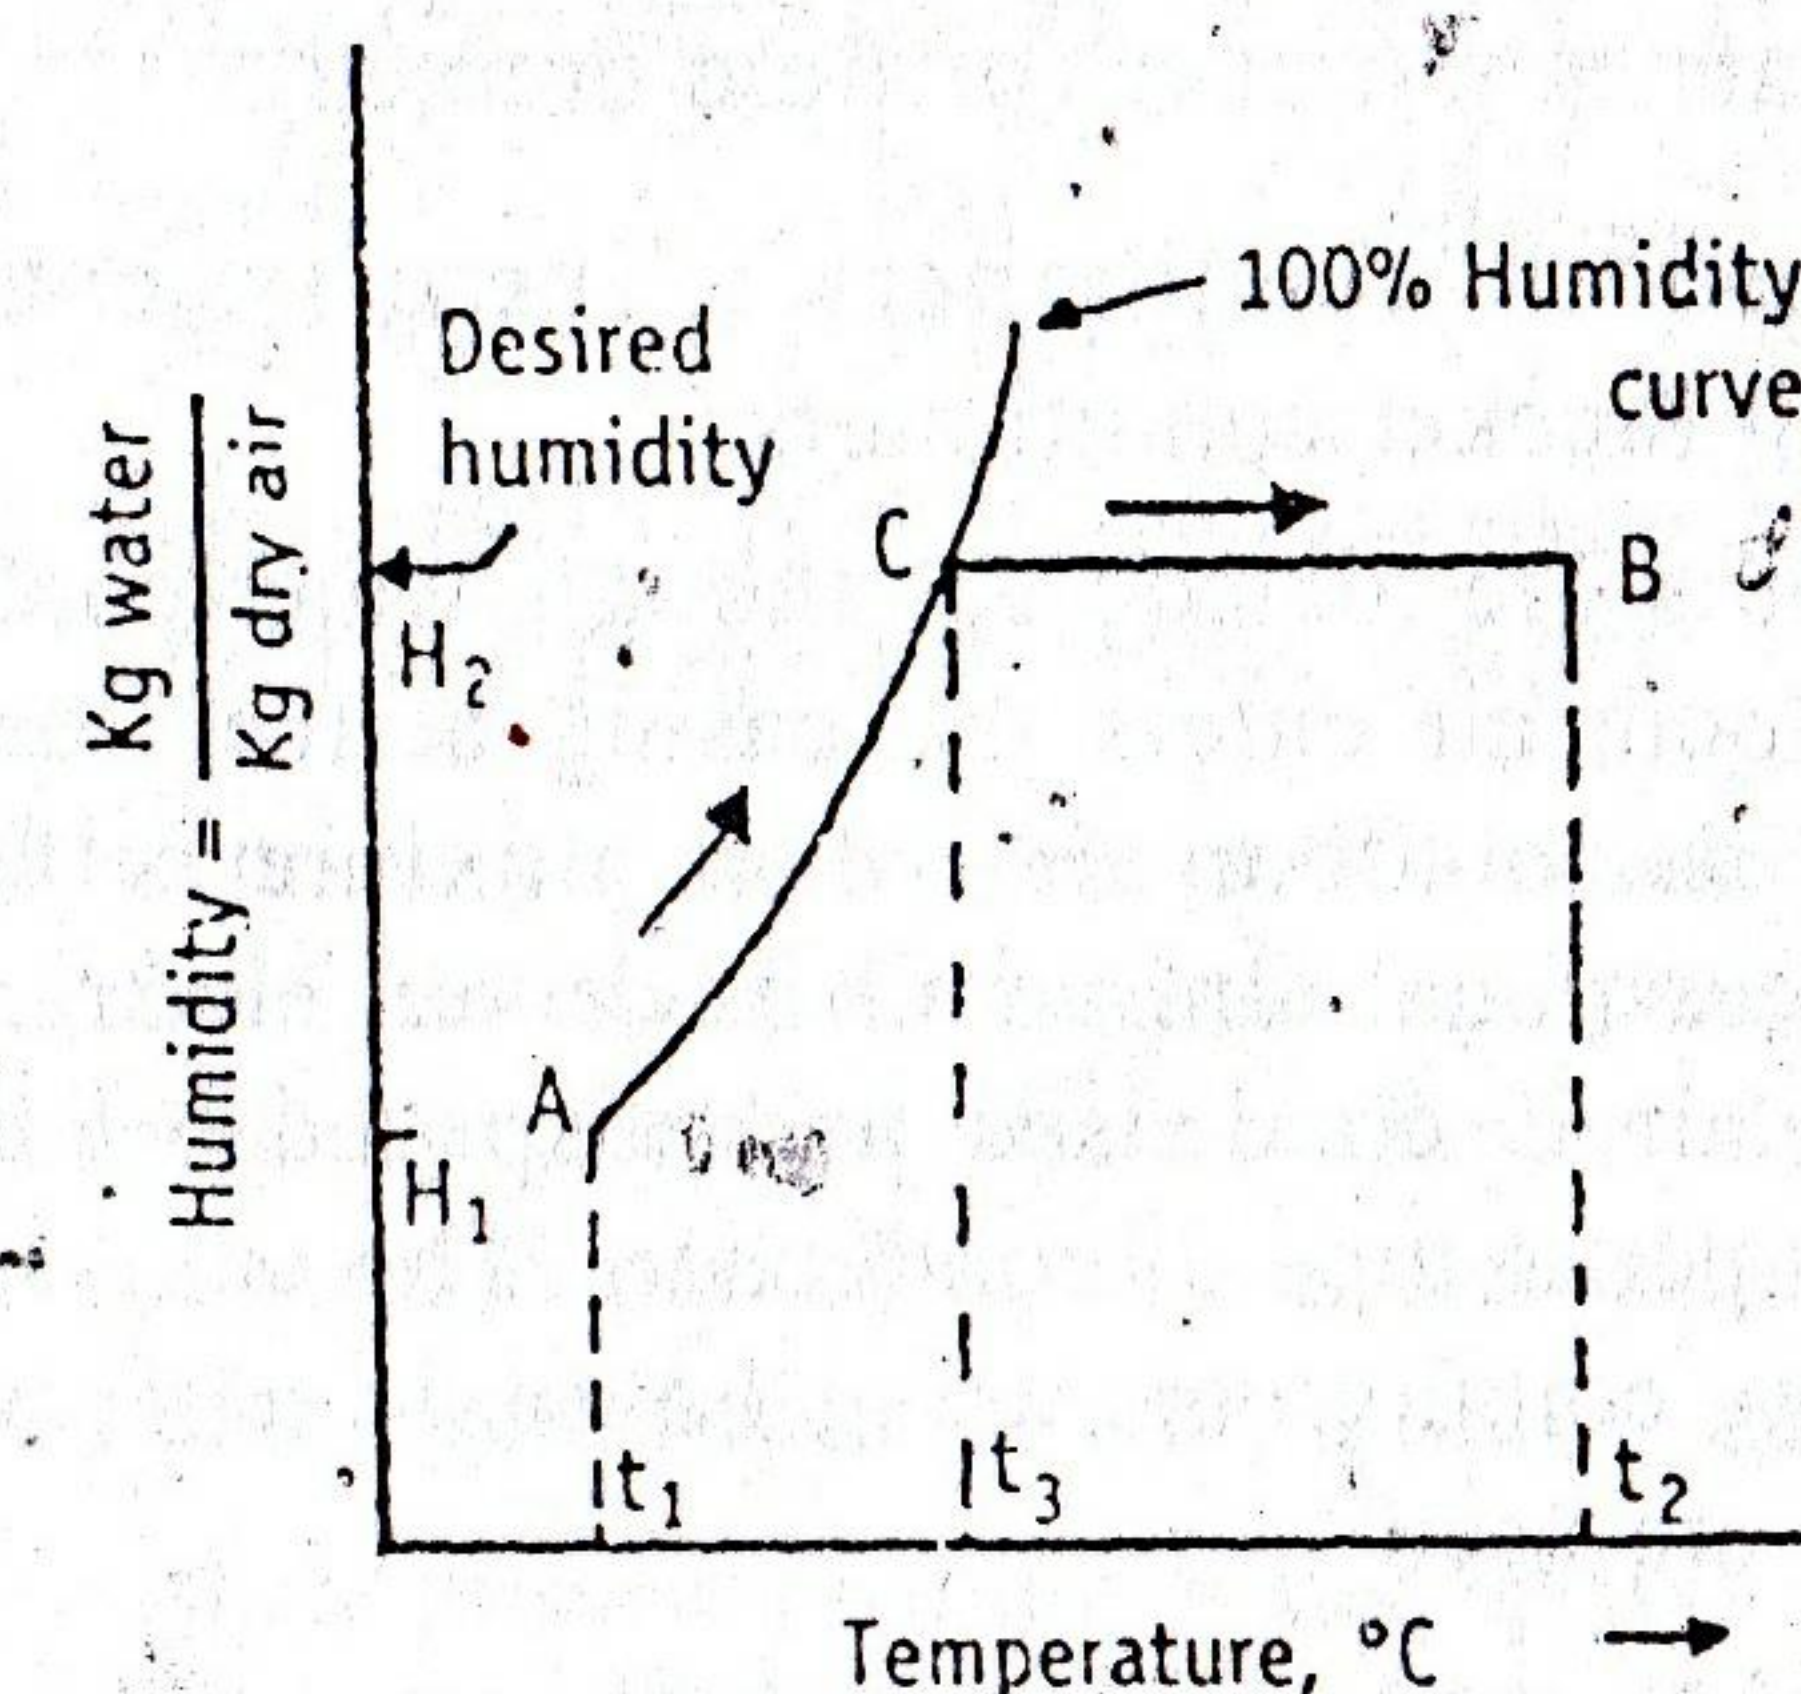
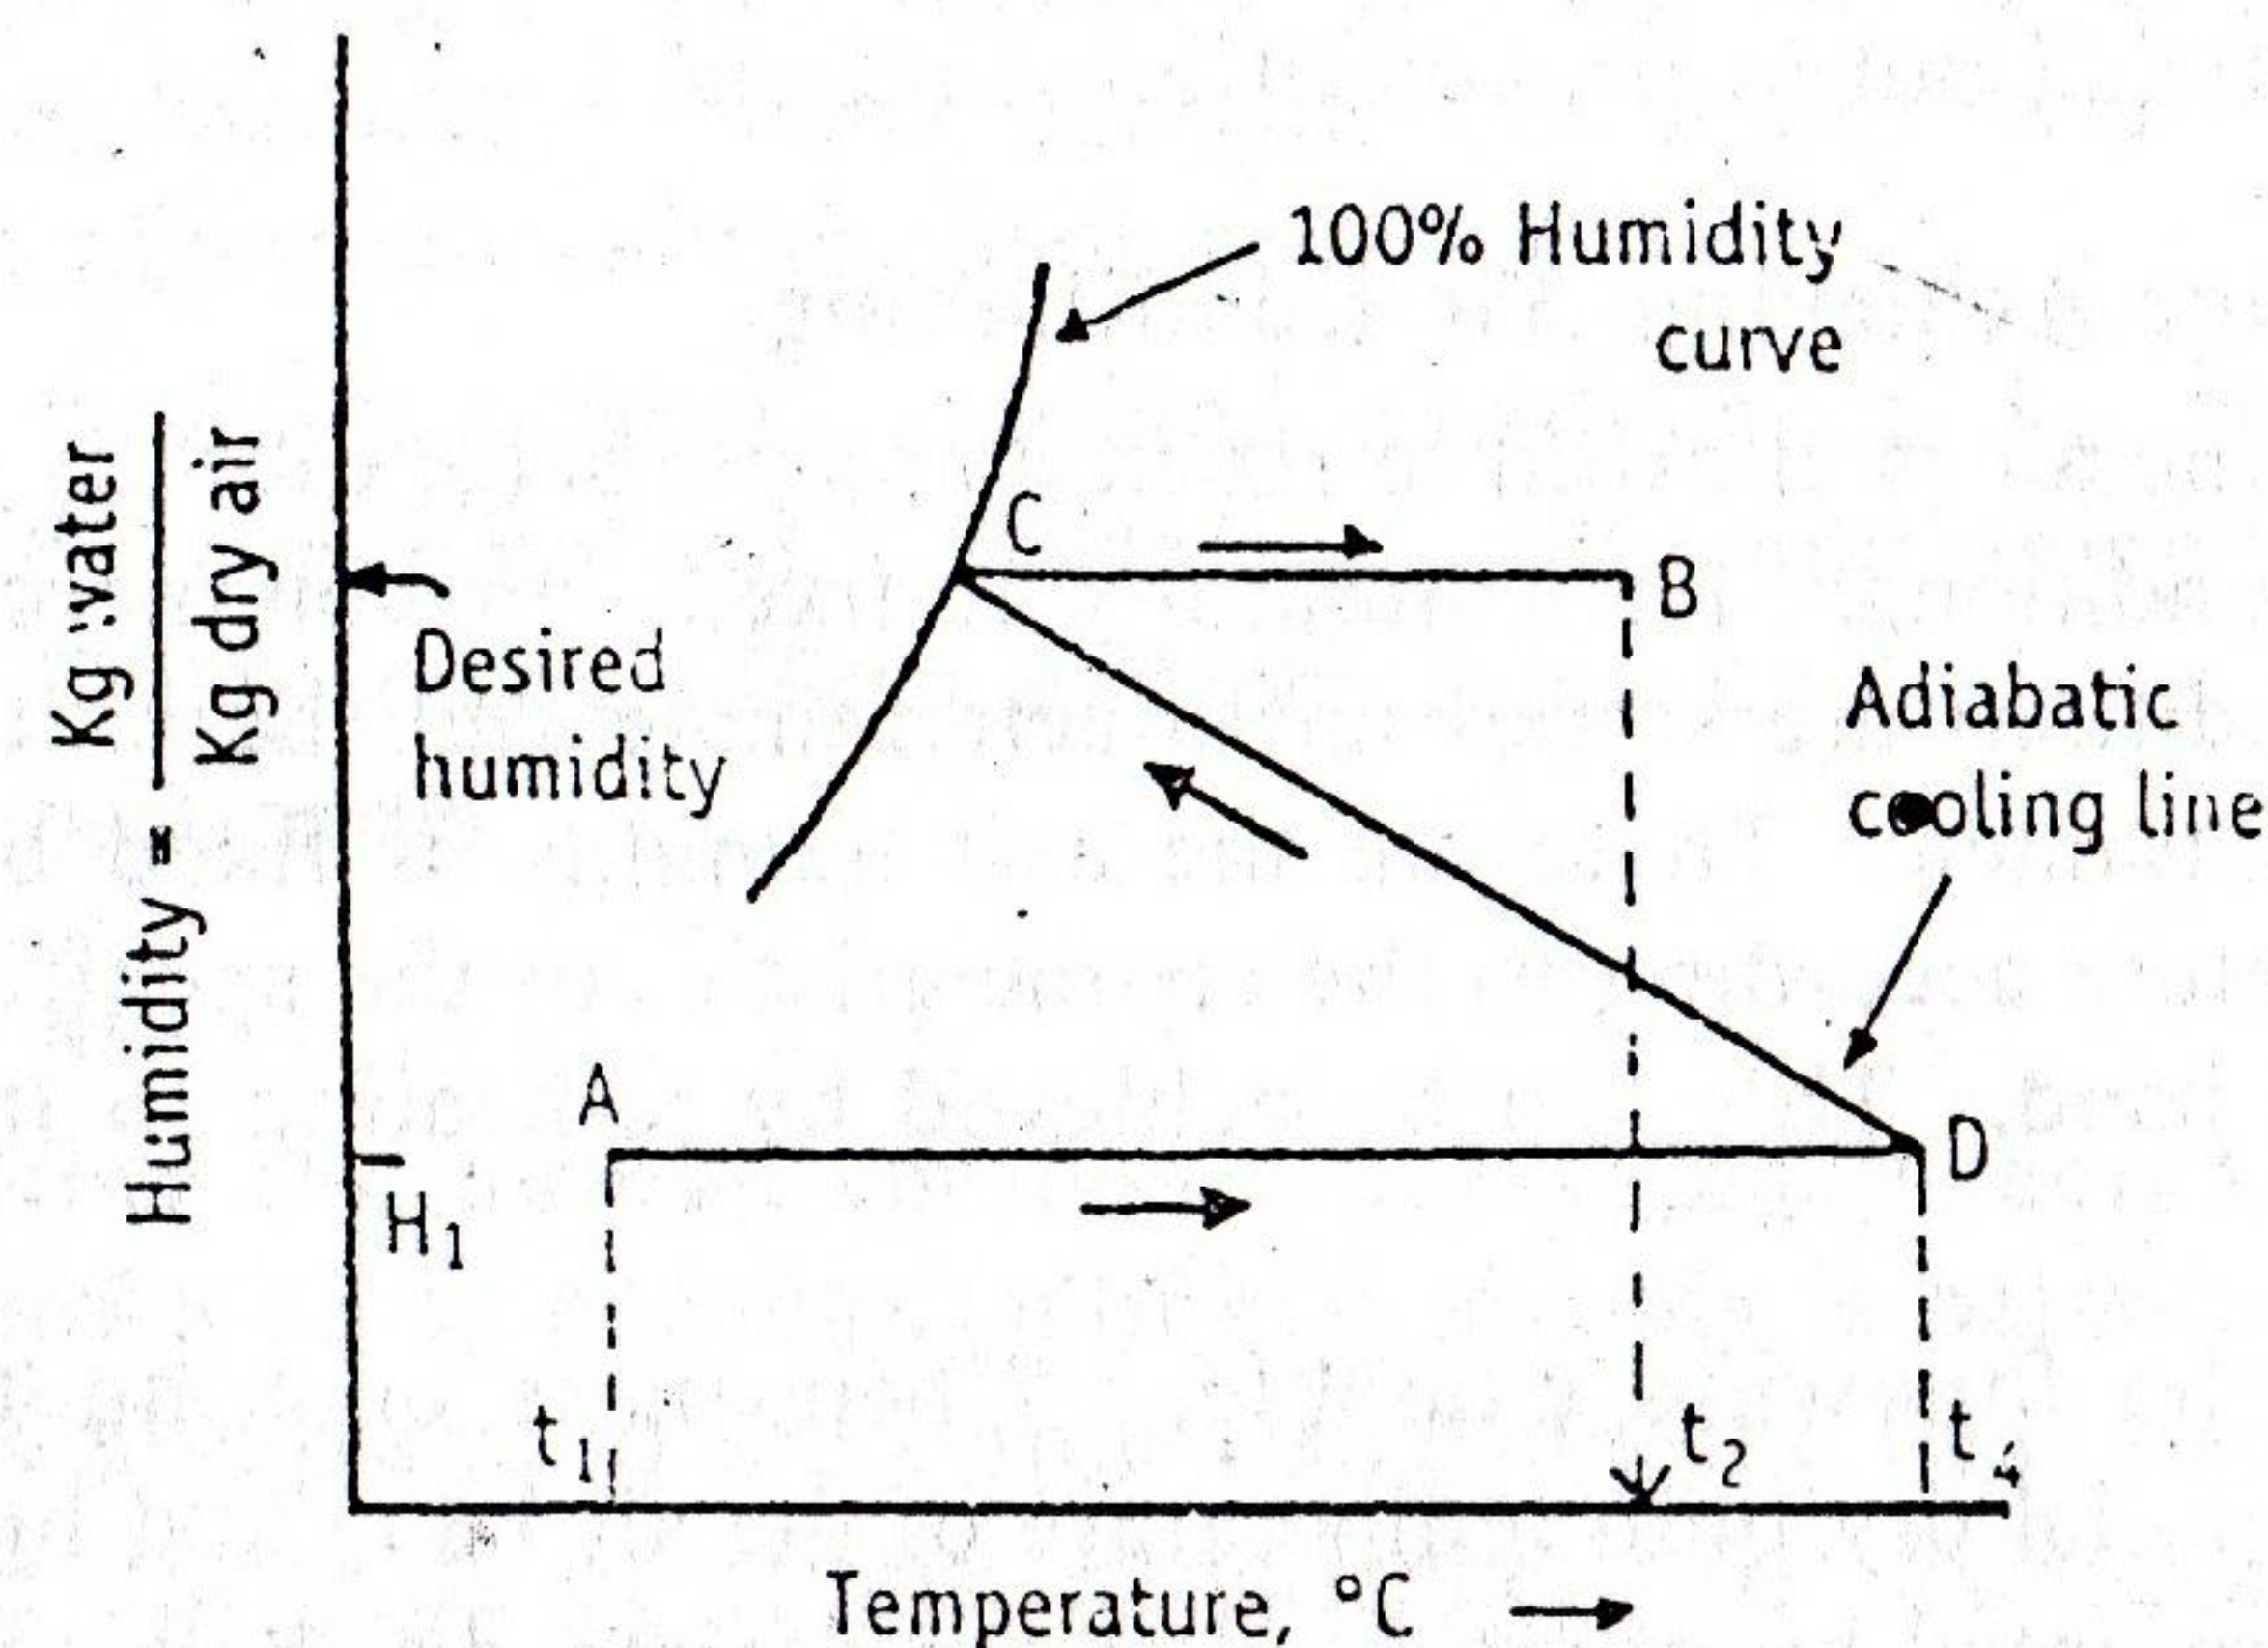
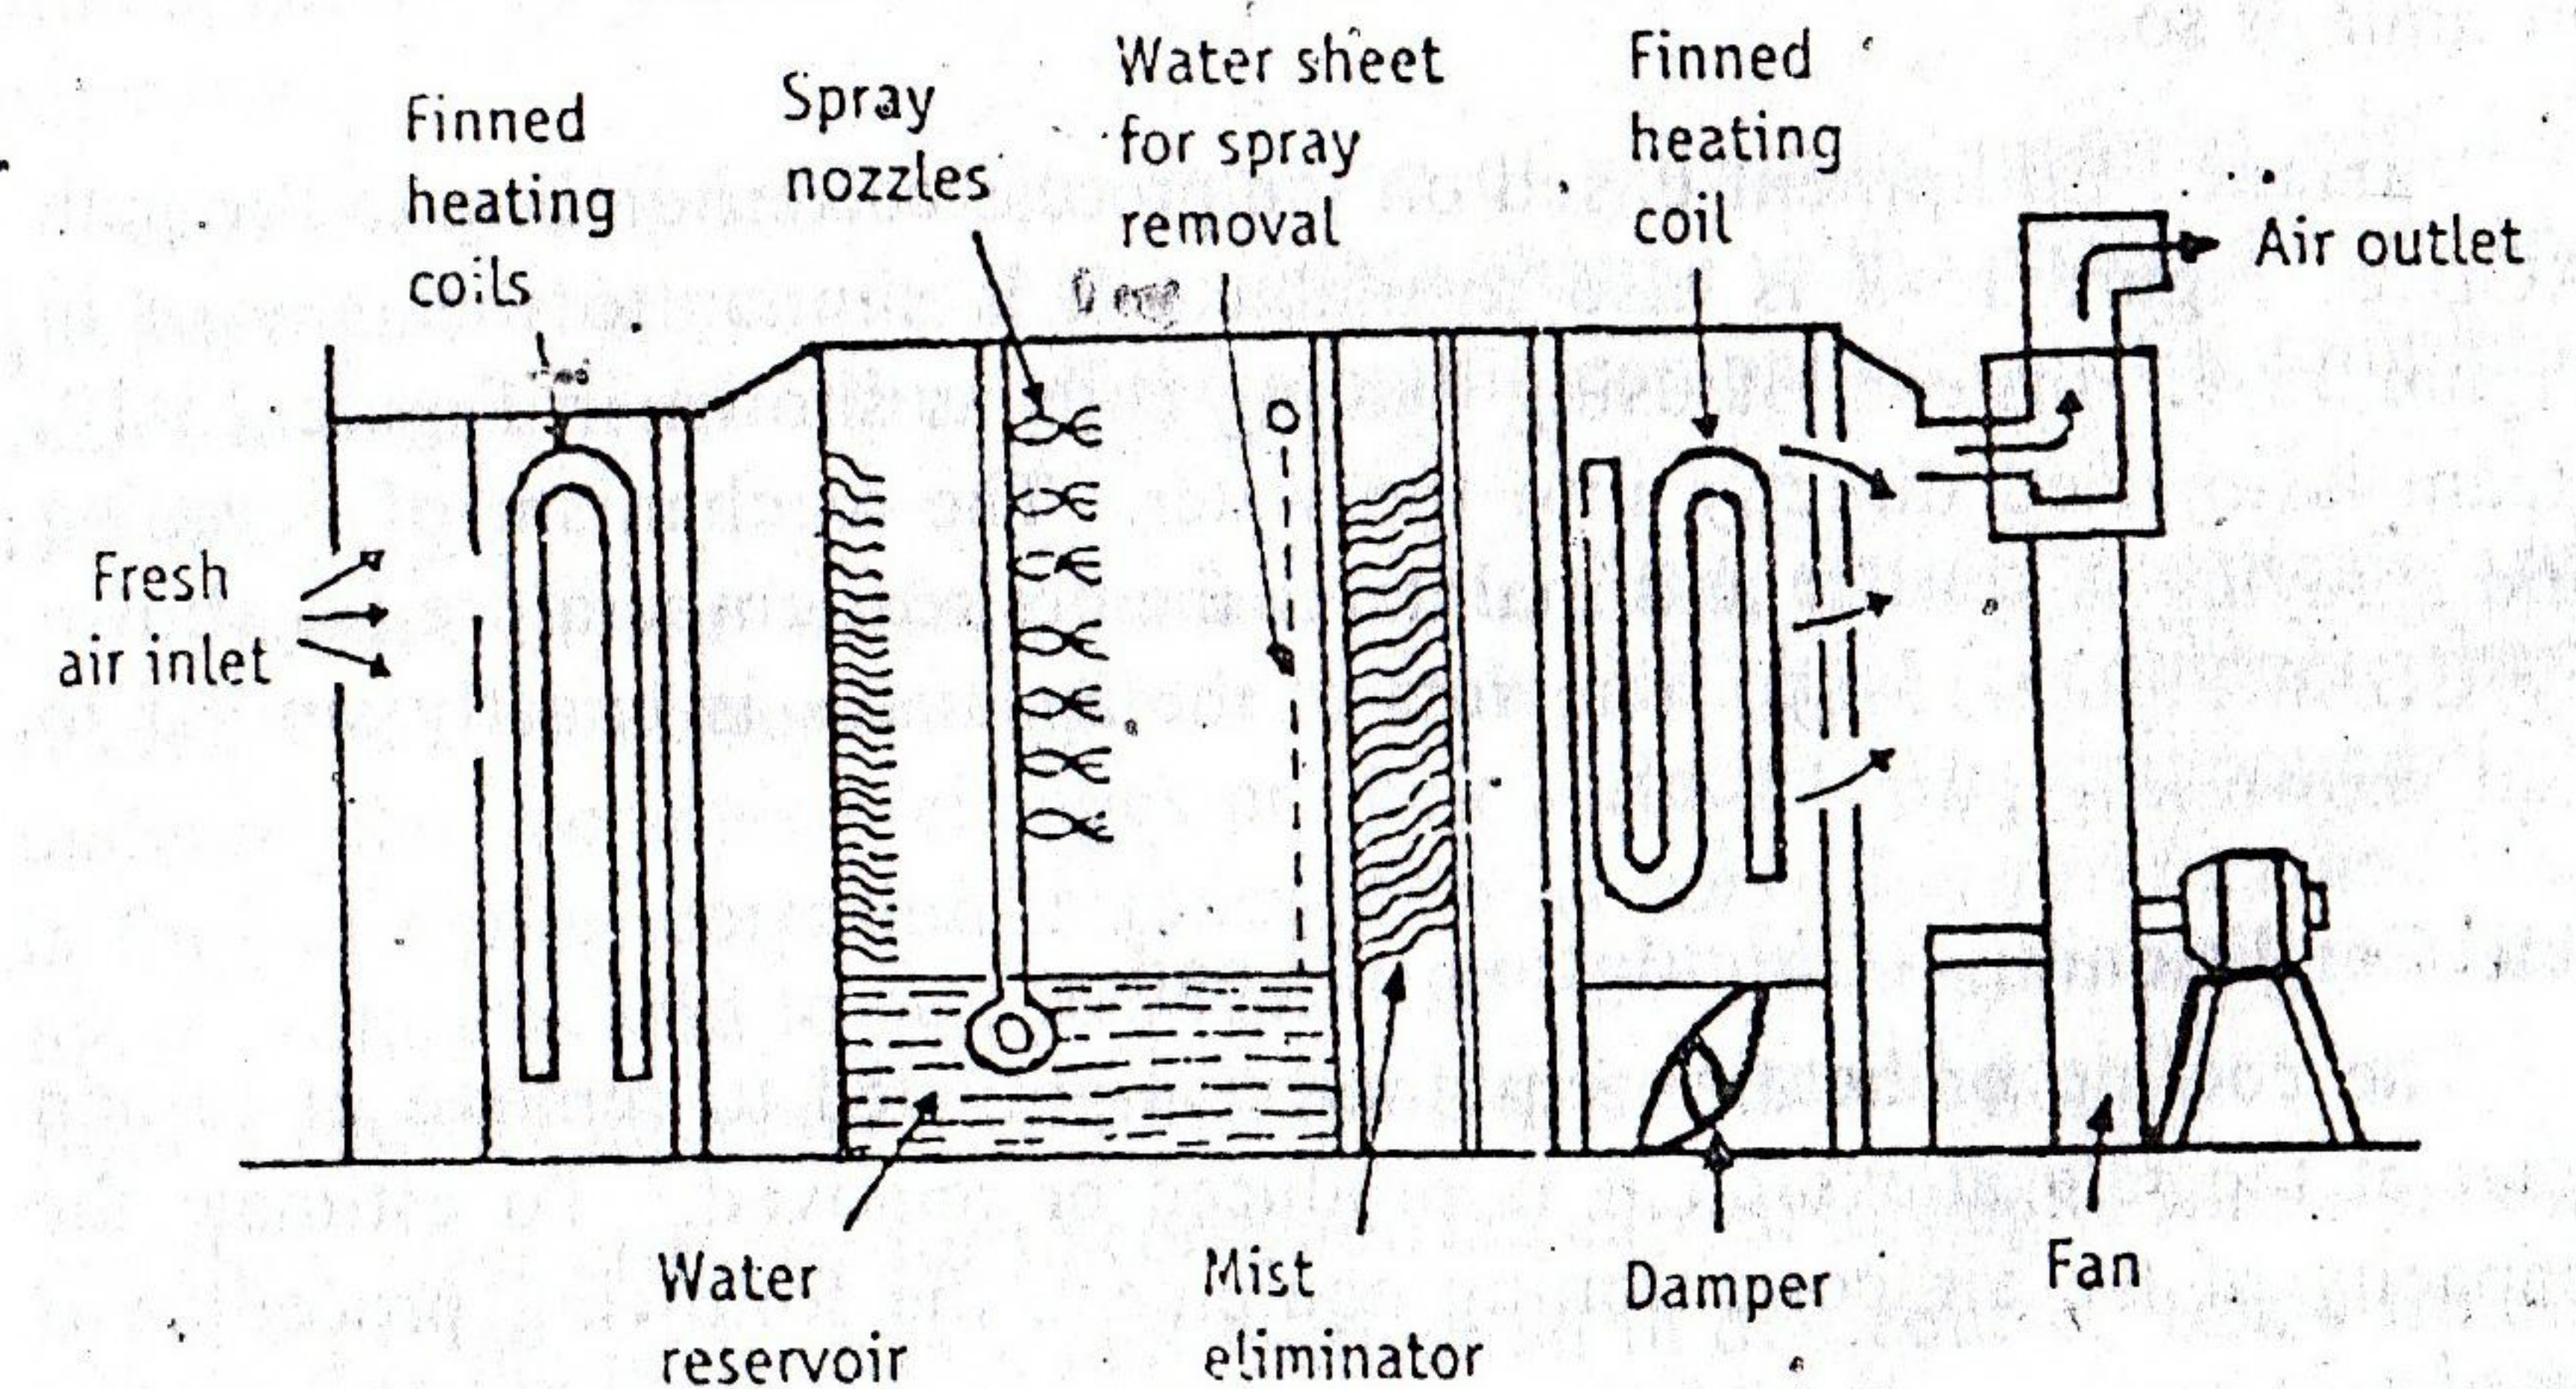

Figure 15-8. Changes in air temperature and humidity for air conditioning process (Approach A), using 100% humidity line of the psychrometric chart.
Figure 15-9. Changes in air temperature and humidity for air conditioning process (Approach B), based on adiabatic cooling line.
Figure 15-10. Typical, central-stationed air conditioning unit and control systems.
(A) The sequence of steps is shown in Figure 15-8. The air is first allowed to attain the desired humidity by treating with water using humidity chart. It is represented by point C (wet bulb temperature, t_3).
Then it is heated to attain the desired temperature of t_2 at the same humidity. This path of air is represented by ACB in Figure 15-8.
(B) The sequence of steps is shown in Figure 15-9. In the second approach, air is preheated to a temperature, t_1 . Subsequently, the air is cooled along the adiabatic cooling line, until it reaches the desired humidity. It is then reheated so as to reach the desired temperature of t_2 . This corresponds to path ADCB in Figure 15-9.
Construction : The construction of the equipment is shown in Figure 15-10.
Working : The principle employed in this equipment is approach B. Outdoor air and room air is drawn into the equipment using a fan. Air quality is maintained by allowing the air to pass through the filters in order to remove suspended particles. Air is then allowed to pass through finned coils and heated (as indicated from point A to D in Figure 15-9).
The hot air is then passed through water sprays and is adiabatically cooled and humidified (line DC in Figure 15-9). The pump draws water from the reservoir below and sprays on the air stream. The pump also
A second set of coils performs the final re-heating (line CB in Figure 15-9). The final temperature may be regulated by controlling the steam in the second set of coils or by controlling a bypass damper as shown in Figure 15-9. A fan draws the air through the apparatus and discharges it to the point of use. From this point, the air is sent to the required areas through ducts.
Variant : Equipment based on the process corresponding to the path ACB of Figure 15-8 is also available. It is similar to that shown in Figure 15-9. Instead of using heating coils as shown in Figure 15-10, steam is injected directly into the water. The mechanism of pumping and spraying is similar and maintains the desired temperature (as shown by CB in Figure 15-8). The rest of the apparatus is exactly similar to that shown in Figure 15-10.